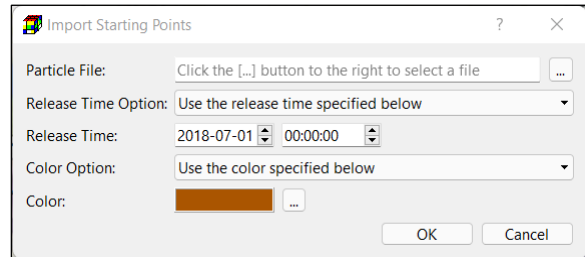

Figure 158. The Import Particles dialog box
3. **Import Starting Points:** This will display the Import Starting Points dialog box (Figure 158) that assists you to import starting points (particles). This dialog box has the following features.